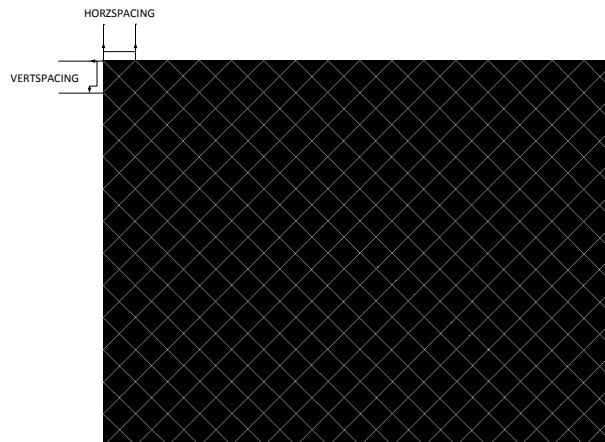

Figure 3-4. Example of Diagonal Lines Test Pattern
9. The colors for the diagonal lines pattern are specified using both the foreground and background colors. The foreground color is used for the diagonal lines, and the background color is used for the space between the lines. As noted in Table 3-3, the user specifies the horizontal and vertical line spacing. The line width is always one pixel. The user determines the line spacing for each resolution display. Both horizontal and vertical line spacing must use the same value, and are limited to values of 3, 7, 15, 31, 63, 127, and 255. Invalid values result in a communication error (invalid command parameter). An example of a diagonal lines pattern is shown in Figure 3-4.